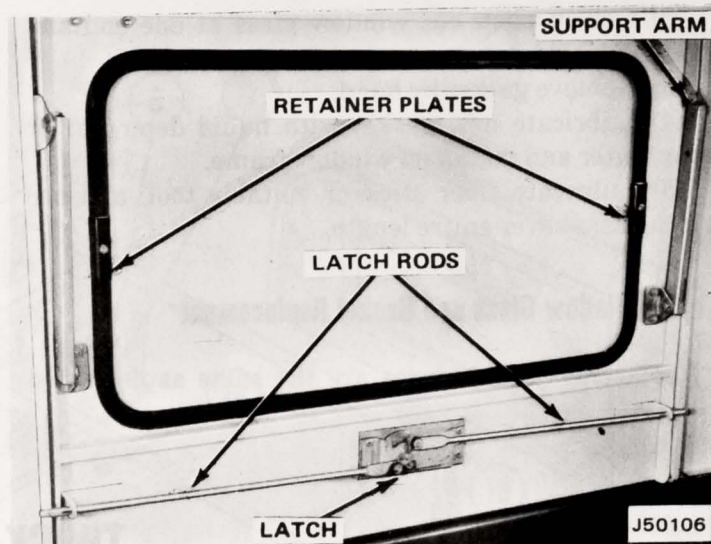

Fig. 2-38 Latch and Rod Assembly
above except that retainer plates are installed on each side of the window for rigidity (fig. 2-38 and 2-39).
(1) Remove cotter pins, washers, and rubber spacers securing two rods to latch (fig. 2-38 and 2-39).
(2) Drill out rivets securing latch assembly to liftgate.
(3) Remove screws and lockwashers attaching outside handle to liftgate. Remove handle and gasket.